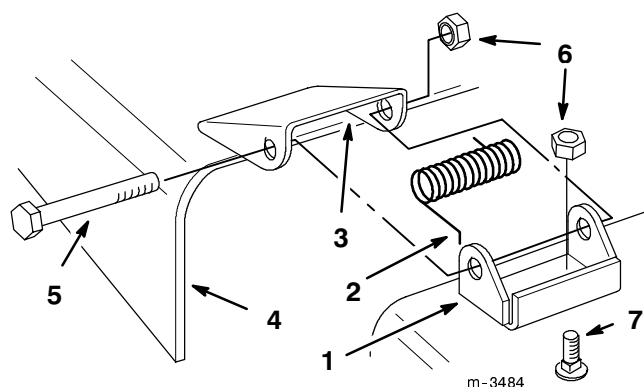

Figure 2
1. Remove the discharge chute and mounting brackets from the mower (Fig. 2).